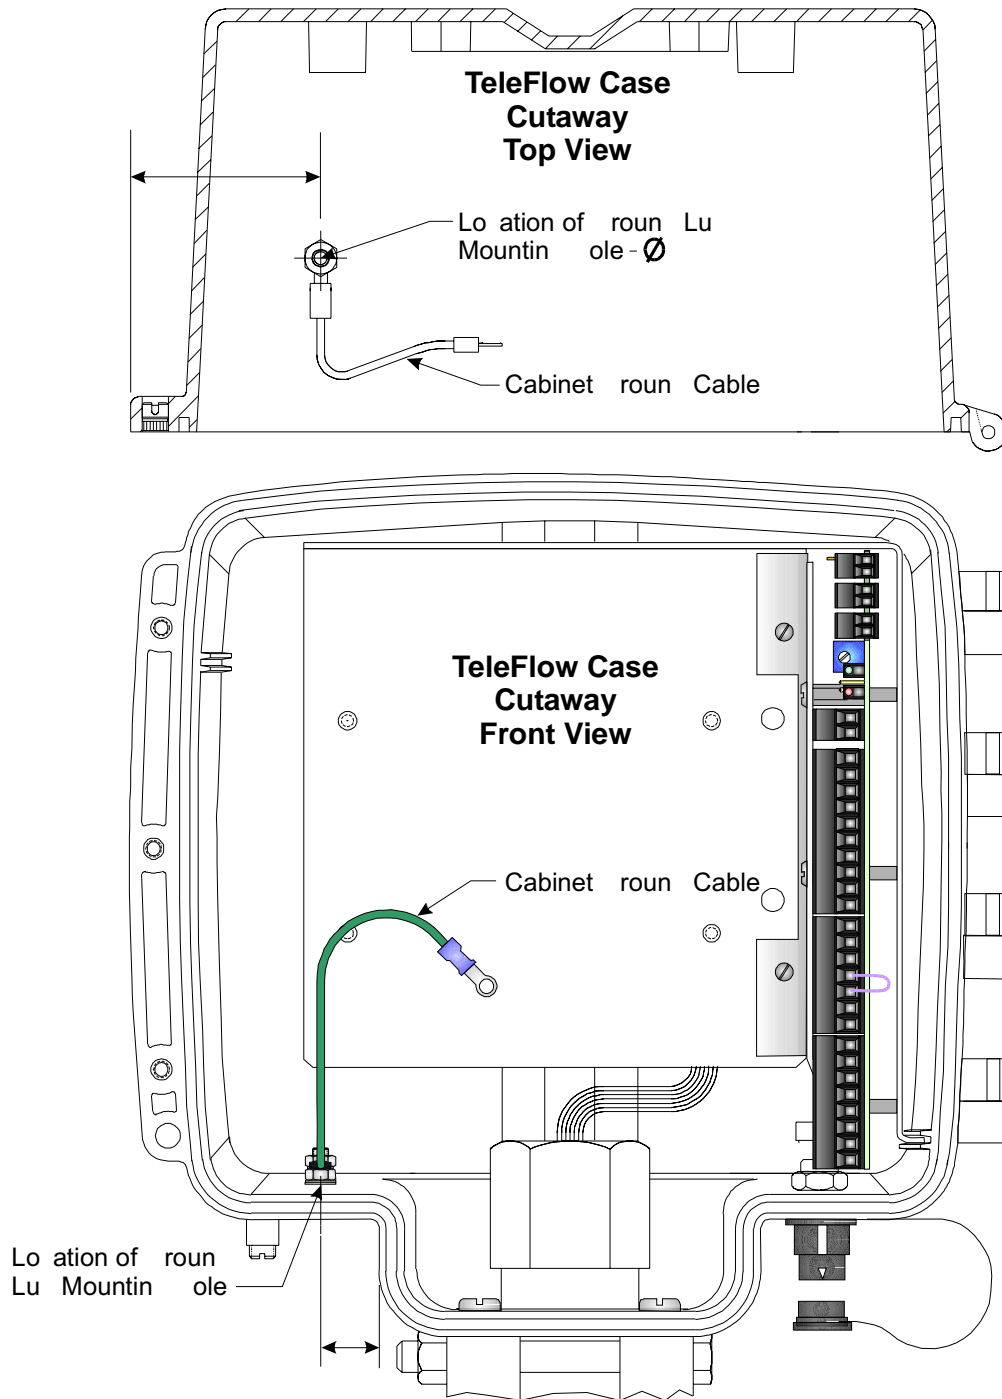

Figure 1 - Ground Lug Hole Location Diagram
2. Referring to Figure 1, determine the location of the 13/64-inch hole that must be drilled through the bottom of the enclosure. Mark this location on the bottom of the enclosure. Clamp the TeleFlow (3530-10B) in a vise (or otherwise secure the unit) and drill a 13/64 inch hole through the bottom case at the location specified in Figure 1. Use an appropriate size rat-tail file to remove any slag from the edges of the hole. Take extra precautions to assure that no filing are left within the enclosure and that no debris enters the unit's Multivariable Transducer.